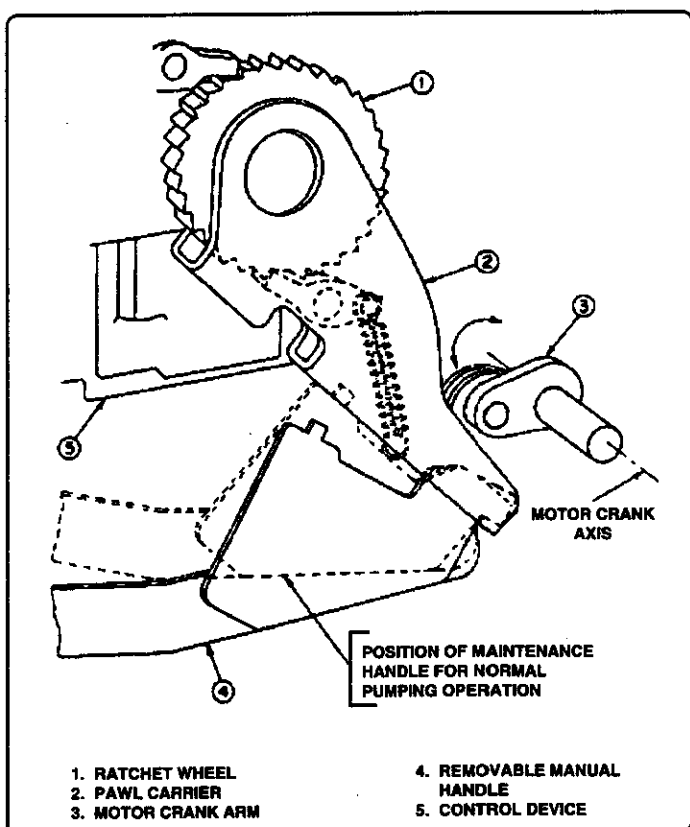

Figure 6 - Manual Charging Of Electrically Operated Circuit Breakers
Electrically operated circuit breakers may be charged manually by a removable maintenance handle for bench tests or emergency operation. Position the maintenance handle hooked section on the long slot on the pawl carrier (refer to Figure 6). The small tab on the maintenance handle will fit the small hole of the pawl carrier. Using a pumping motion, rotate the pawl carrier until the ratchet wheel no longer rotates. At this point, the spring charge indicator will indicate SPRINGS CHARGED. The circuit breaker can be closed manually with the manual close lever. NOTE: Occasionally
1. Full close test: Charge the closing springs and turn off motor switch. Close breaker. Insert manual charge handle into charging lever (see figure 6). During the initial portion of the upward charging motion of the manual charge handle, the closing springs should start charging via the ratchet mechanism. This can be felt by a definite and continual resistance against the manual charging handle and charging lever during the upward stroke, caused by the tension of the closing springs. This indicates that the breaker has fully closed and latched.